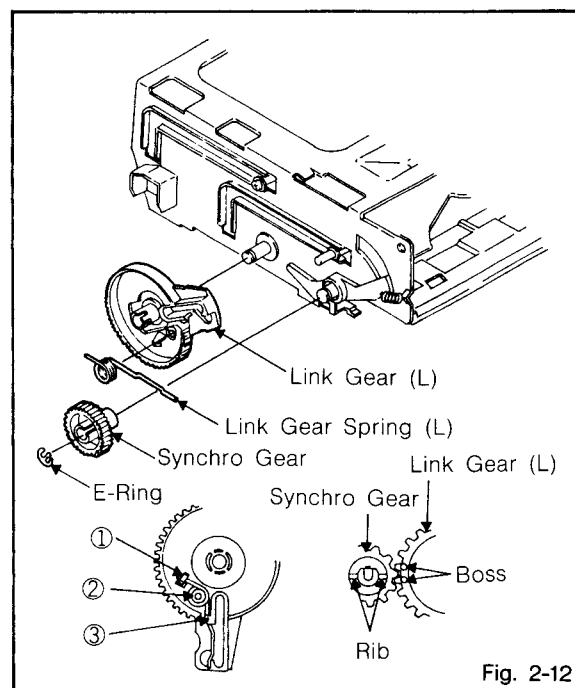

Fig. 2-12
2-12: LINK GEAR (L) (Refer to Fig. 2-12)
3. Remove the Link Gear (L).
1. When installing the Link Gear Spring (L) on the Link Gear (L), proceed in order ①, ②, ③ as shown in Fig. 2-12.
2. When installing the Synchro Gear, match the position of the Synchro Gear so that the line over the two ribs on the Synchro Gear goes over the two ribs on the Link Gear (L).